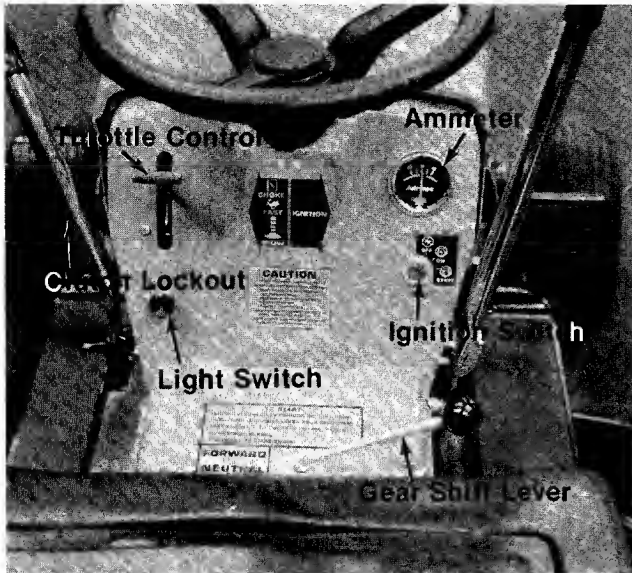

FIGURE 14.
a. **Throttle Control.** The throttle control is used to regulate the engine speed and choke the engine. The engine should be operated from  $\frac{3}{4}$  to full throttle when operating the cutting deck or snow thrower (optional). See figure 14.
b. **Gear Shift Lever.** The gear shift lever is used to shift into "FORWARD," "NEUTRAL" or "REVERSE." See figure 14.
h. **Ammeter.** The ammeter registers the rate of battery charge or discharge. The ammeter should register on the plus side (+) when the engine is running in the fast position until the battery is completely charged. With a fully charged battery or with the engine idling, the ammeter will not show a charge. See figure 14.
i. **Light Switch.** Push the light switch to turn on the lights. The lights will only operate when the engine is running. See figure 14.
Turn the key to the "START" position to start the engine. When the engine is running, let the key return to the "ON" position. To stop the engine, turn the key to the left to the "OFF" position and remove it to prevent accidental starting. See figure 14.
4. Set the throttle control in the "CHOKE" position. See figure 14.
5. Turn the ignition key to the "START" position. When the engine is running, let the key return to the "ON" position. See figures 14 and 20.